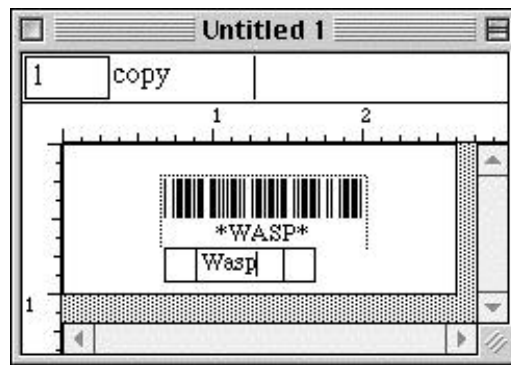

Figure 2-9 Bar Code with Human Readable Text Displayed Below
9. When you select another object or tool, the bar code object edit areas disappear, and the bar code object appears in its normal state. See Figure 2-9.